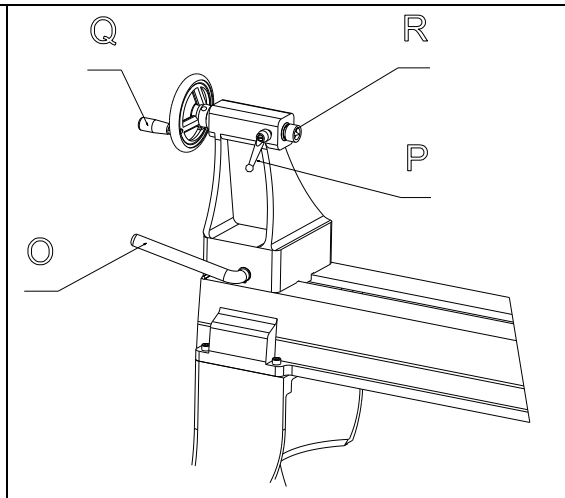

Fig.8
11. Tailstock Lock Handle: (O, Fig. 8) Locks the tailstock in position. Unlock handle to position the tool rest in any location along lathe bed. Tighten handle when properly positioned.
12. Tailstock Quill Lock Handle: (P, Fig. 8) Locks the tailstock quill in position. Unlock handle to position the quill. Tighten handle when properly positioned.
13. Tailstock Quill Handwheel: (Q, Fig. 8) Turn the handwheel to position the quill. The tailstock quill lock handle must be loose to position quill.
14. Tailstock Live Center: (R, Fig. 8) Used for turning between centers. Quill taper is MT-2. Remove live center by retracting the quill until live center loosens. Remove, or add different tips to the live center by inserting the provided rod through